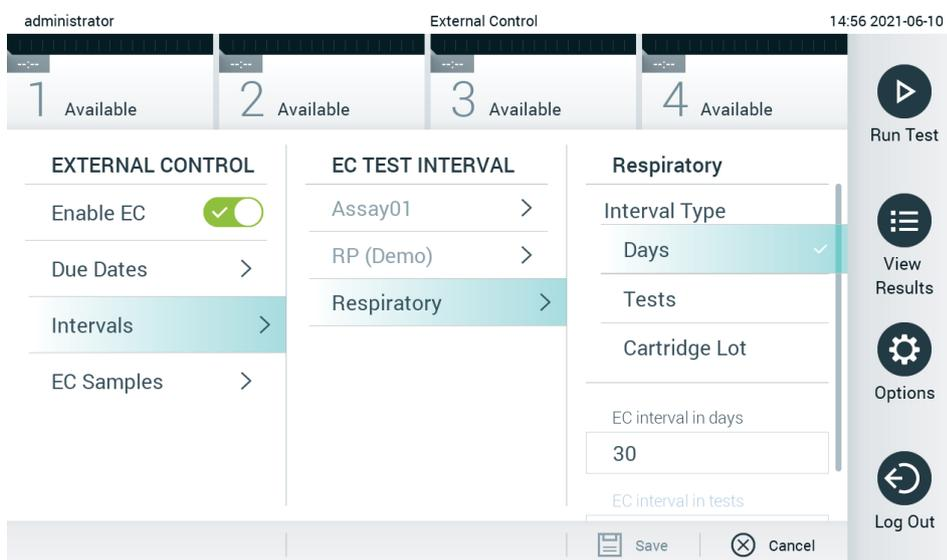

Figure 52. External Control Intervals screen.
4. Select **Intervals** and then an assay from the list to configure the interval after. A reminder is shown to remind users that an External Control test needs to be performed for the selected assay if the interval has passed (Figure 52).